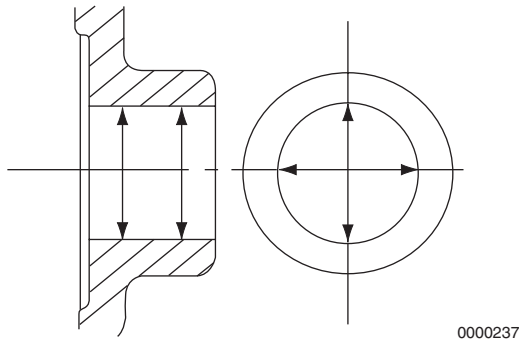

Figure 6-112
6. Measure the diameter of the wrist pin bore on both sides of the piston (**Figure 6-112**). See *Piston on page 6-15 for specifications*. Record the measurements.